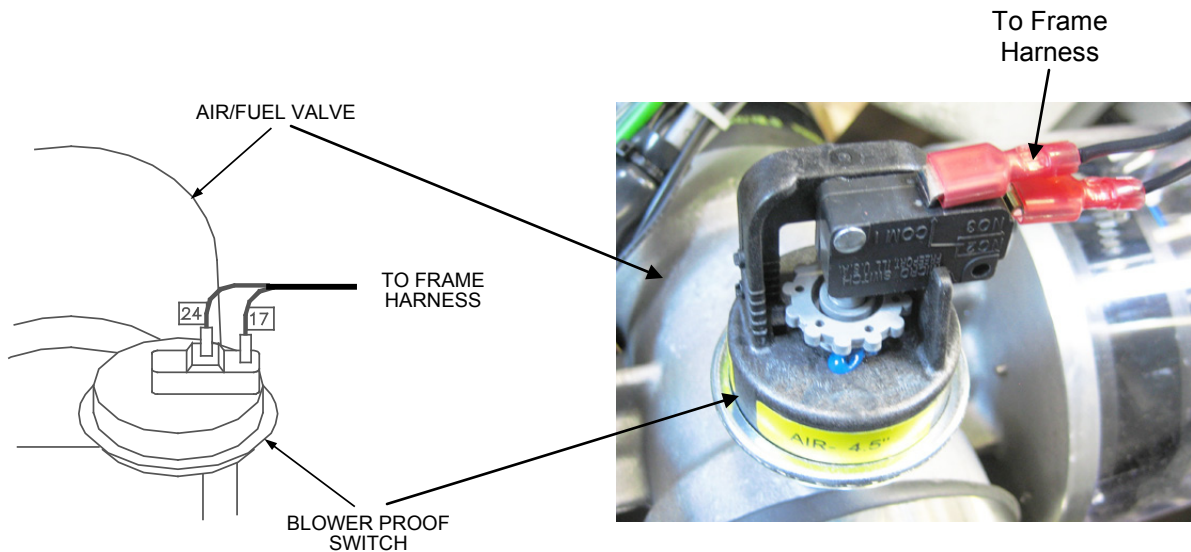

Figure 6.13
14. Disconnect wires #24 and #17 from the blower proof switch (See Fig. 6.13).